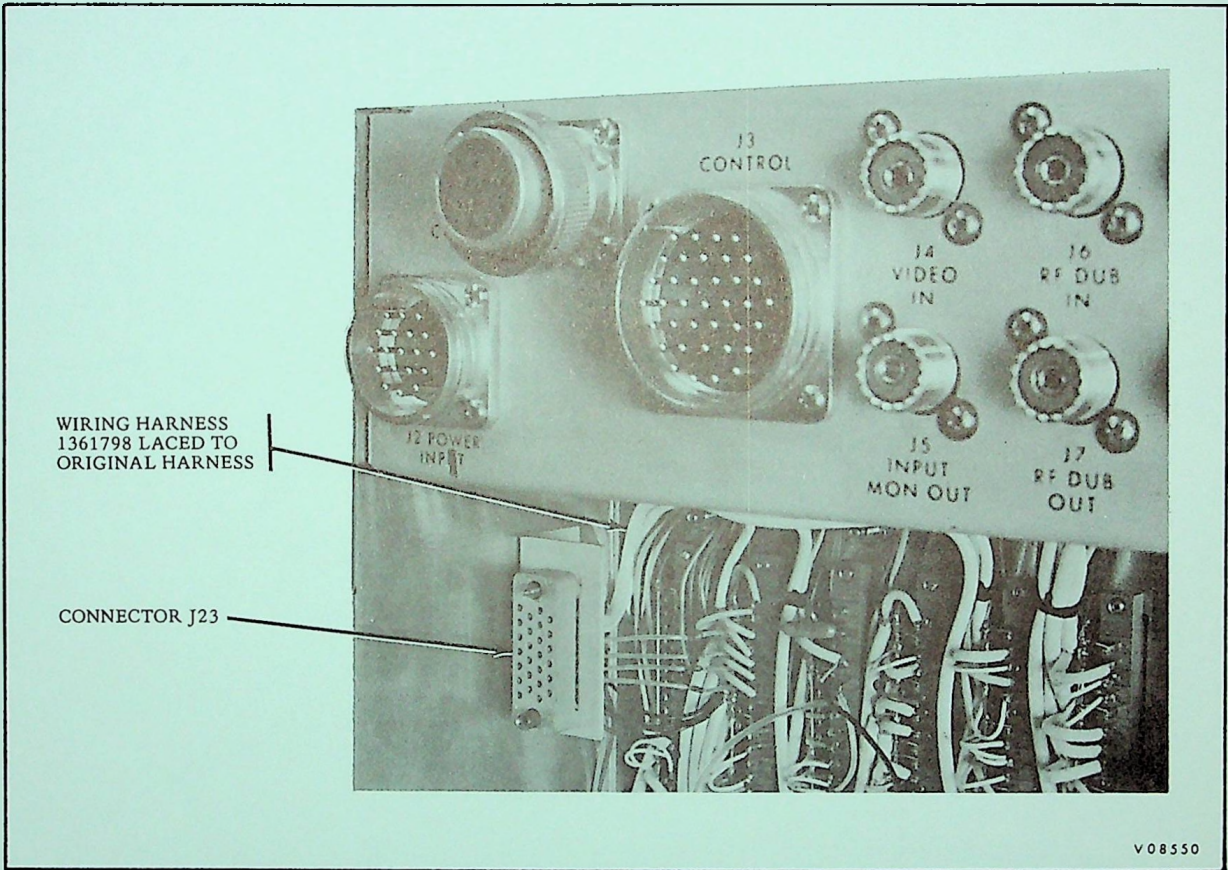

Figure 2. VR-1200 Signal System Modification, Harness Installation
- c. Mount connector J23 of kit-furnished harness 1351798-01 at two holes drilled in step b (see Figure 2).